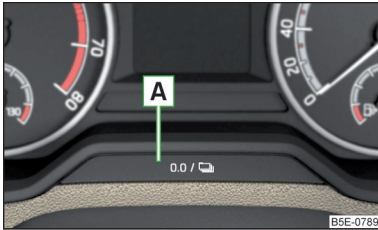

Fig. 41
The counter can be reset by tapping the button **A** » Fig. 41 on page 50 or in Infotainment via the menu **CAR** / → → **Instrument cluster menu**.
- › Press and hold the button **A** » Fig. 41 until the time is shown in the display.